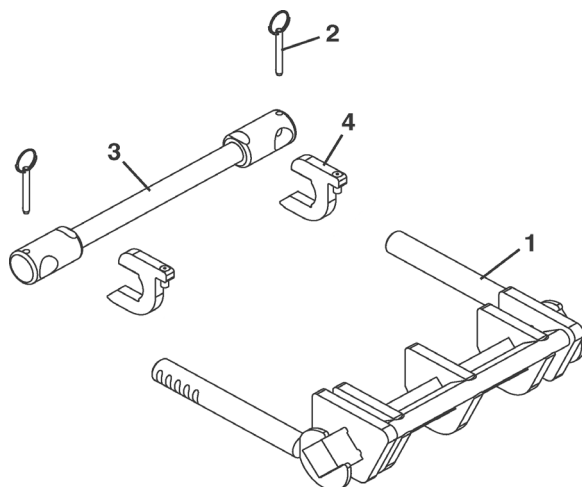

Figure 24
Typical Nose Bar Tip Up Tail Components (Figure 24)
Adjust the acorn nuts (Figure 24, item 5) on the key stops (Figure 24, item 4) to raise or lower the tip up tail assembly.